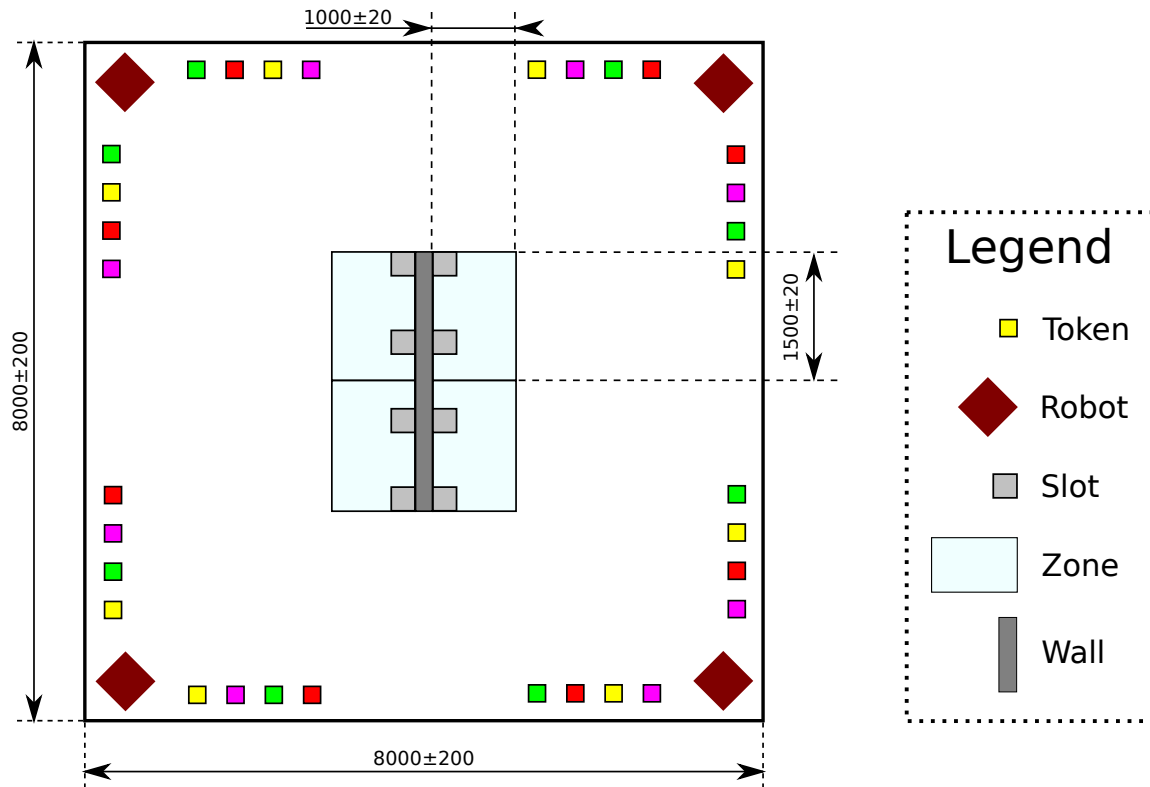

Figure 3: A bird's-eye view of the arena. All dimensions are in millimetres.
- 3.4.1 There are four zones in the centre of the arena. The arrangement of these zones can be seen in figure 3, and is shown in more detail in figure 6.
3.6.7 The tokens are arranged in order based on the next nearest starting corner to the token position. This ensures that the two positions nearest the corner will contain tokens belonging to the robot starting in that corner, and is shown in figure 3.